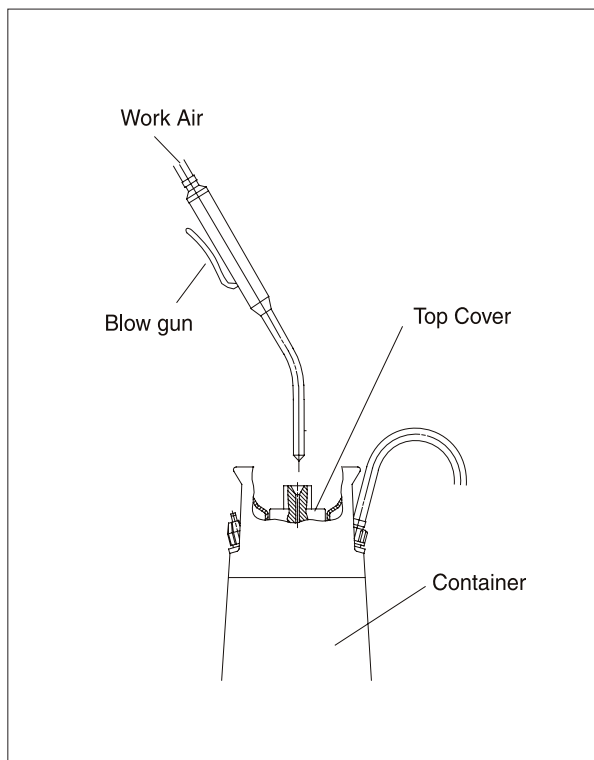

Fig 2
**5)** Blow air into the container by means of a blow gun, until an operation pressure of 3 bar is reached (see fig 2).